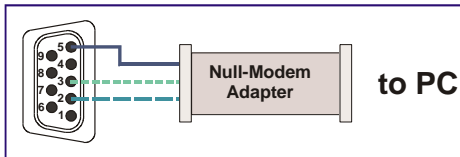

Figure 6: Straight Cable RS-232 Connection with a Null Modem Adapter
**Method B** (Figure 6)—Connect the RS-232 9-pin D-sub port on the unit via a straight (flat) cable to the null-modem adapter, and connect the null-modem